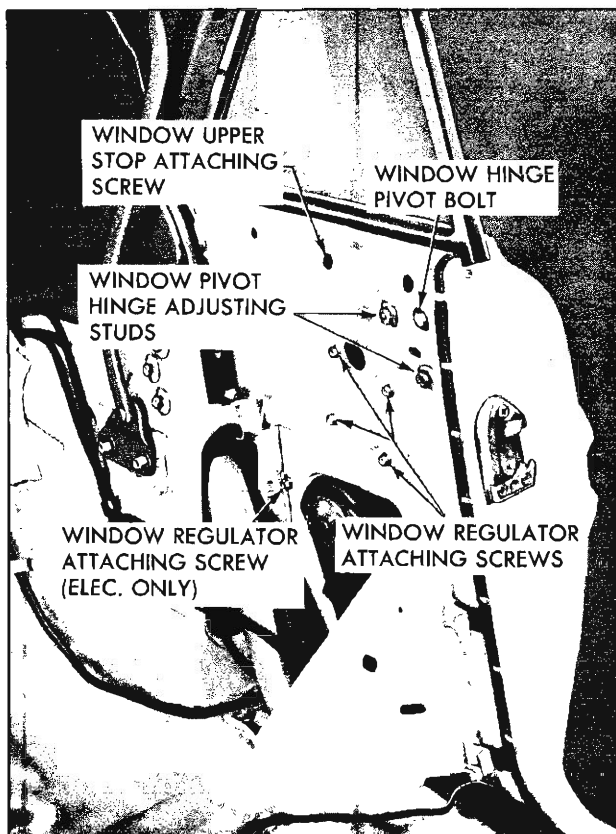

Fig. 70—Rear Quarter Hardware—67 Styles
3. Remove window pivot bolt (fig. 70). Disengage window male hinge from female hinge plate; then raise window to disconnect window lower sash channel cam from roller on window regulator lift arm and remove window.
1. To adjust the limit of the rear quarter window up travel, loosen the window upper stop attaching screw (fig. 70). Adjust window as desired; then position stop against regulator lift arm roller and tighten stop attaching screw.
- a. Up or down or fore or aft window adjustment: Loosen pivot bolt and both adjusting stud nuts (fig. 70). Position window as required; then tighten pivot bolt and stud nuts.
- b. In or out adjustment of top of window: Loosen lower adjusting stud nuts and slightly loosen rear stud nut. Adjust lower stud in or out, as required; then tighten both stud nuts (fig. 70).
5. Remove window regulator attaching screws (fig. 70). Disengage roller on regulator from sash channel cam and remove regulator through large access hole.